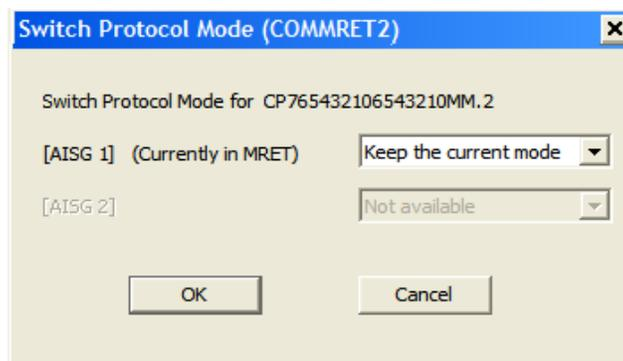

Figure 5-15. Switching protocol mode for COMMRET2 device with only one AISG input.
7. For the Antenna with COMMRET2 devices that only one connector available, the switch protocol mode window is shown as in Figure 5-15. The protocol mode change can be applied only to the AISG 1 input port.